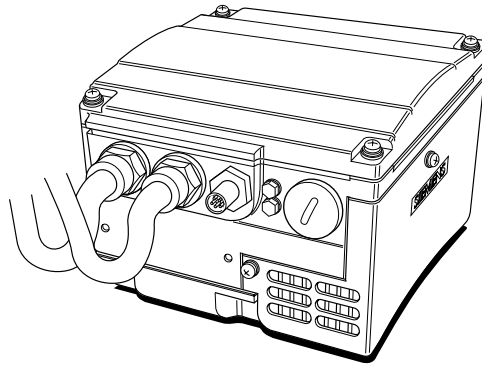

Figure 7 Cable Connections with Drip Loop (Case Size A illustrated)
- (1) Refer to the Data table in section 8.7 for cable sizes.
- (2) We recommend introducing a 'drip loop' when connecting the mains and control cables (see Figure 7).